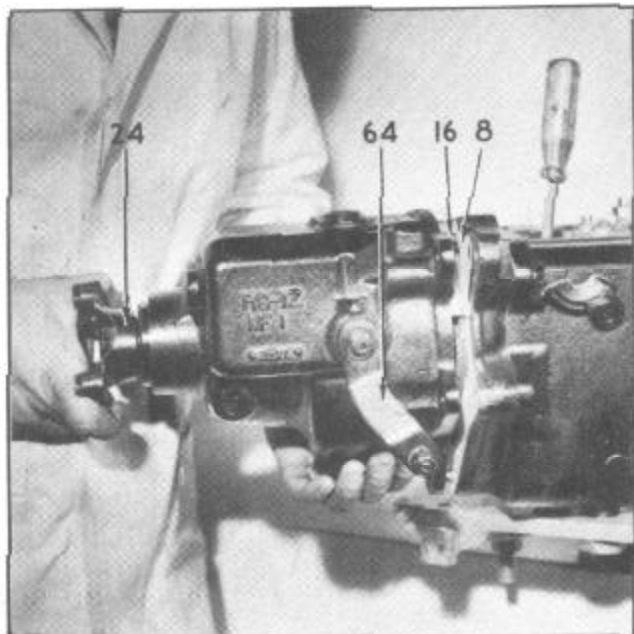

Figure 43--Installing Case Assembly
for shifter rail reverse lock-up plunger (16), Figure 43.
11. Install pinion cage retaining snap ring (34) on transmission main shaft, being careful not to spread ring excessively.
16. Install new, overdrive case to adapter gasket (8).
17. Move shifter lever (64) forward position. Hold overdrive case at a slight angle, as shown in Figure 43, moving shifter rail reverse lock-up plunger (16) into position to pass into housing.